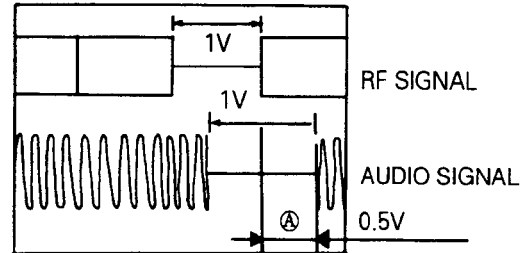

Fig. C-9-1
<p>Checking Procedure</p> <ol style="list-style-type: none"> 1) Confirm that the period ① of Fig. C-9-1 is within $\pm 0.5V$. 2) If the result is abnormal, repeat adjustment #7. (X-Value adjustment). <p>※ 2H : SP, V : Vertical</p>